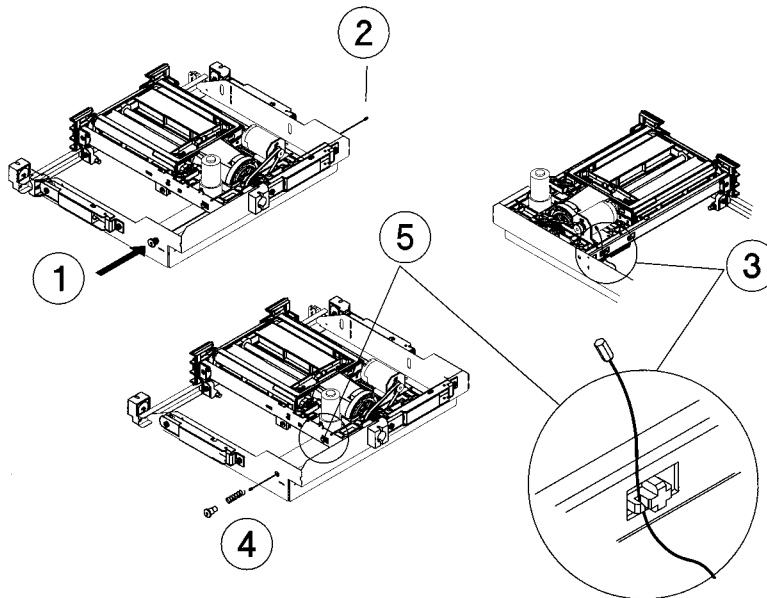

Figure 62: Releasing and Stowing the Picker Translate Cable
3. Release the translate cable from the side of the translate frame nearest the front of the jukebox (see Figure 62):
4. Release the translate cable from the side of the translate frame nearest the rear of the jukebox (see Figure 62):